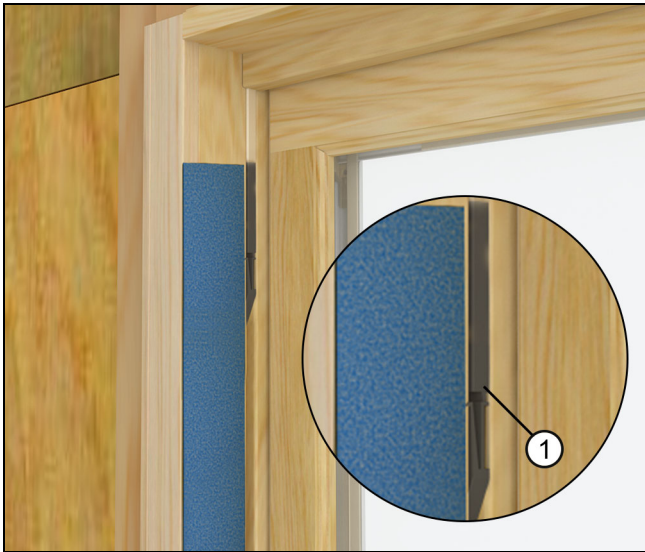

Figure 71
3. Install tilt tool into both wood jamb covers. Cover wood jamb covers and liners with painters tape or similar material near tilt tools to protect the frame. See Figure 71.